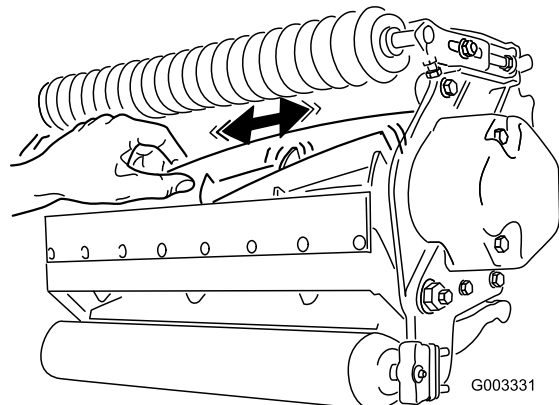

Figure 21
2. Using a rag or thickly padded glove, hold on to the reel blade and try to move the reel assembly side to side (Figure 21).